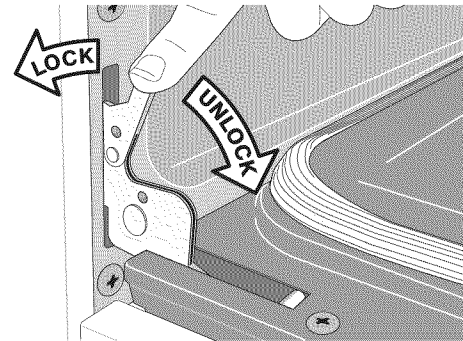

Figure 15: Door hinge locks
2. Pull the door hinge locks on both left and right door hinges down from the oven frame completely toward the oven door (See Figure 15). A tool such as a small flat-blade screwdriver may be required.
4. Push the door hinge locks up toward and into the oven frame on both left and right oven door hinges to the locked position (Figure 15).